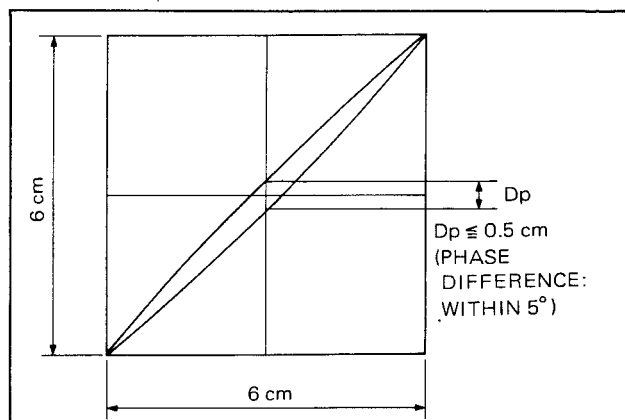

Fig. 10-31. Audio/CTL R/P Head Azimuth Adjustment of Audio 3 kHz Playback
3. Check that the phase difference between AUDIO-1 and AUDIO-2 is within 5 degrees. See Fig. 10-31. If the specified value is not obtained, perform the following adjustment.